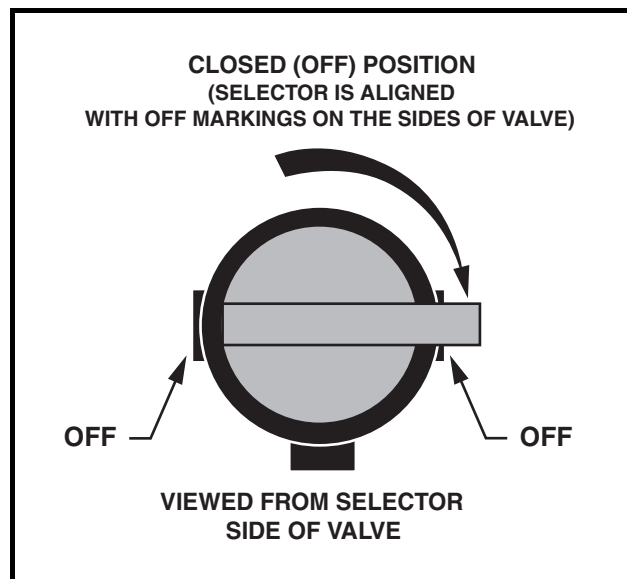

Figure 12 Fuel Shut-off Valve – Closed Position
2. Turn the key switch to the OFF position and place the Forward/Reverse handle in the NEUTRAL position. Remove the key and turn the fuel shut-off valve to the closed (OFF) position when the vehicle is not in use (**Figure 12, Page 22**). See also **Figure 24 on page 32**.
- Turn the fuel shut-off valve to the closed (OFF) position (Figure 12).
- Turn the fuel shut-off valve to the closed (OFF) position (Figure 12, Page 22).